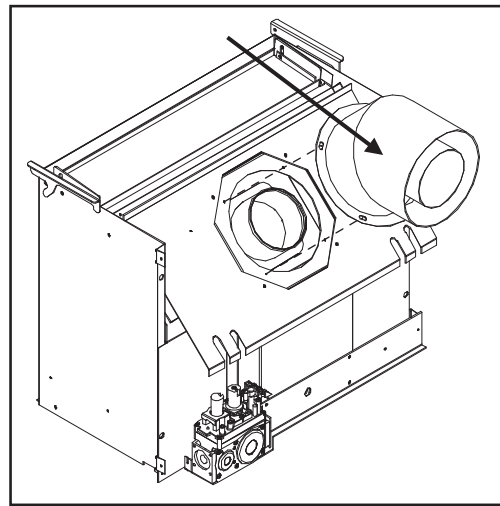

Figure 39: Step 4 of Converting Top Vented into Rear Vented.
2. Remove the four (4) ¼" screws that hold the flue collar elbow to the unit body (see Figure 39).